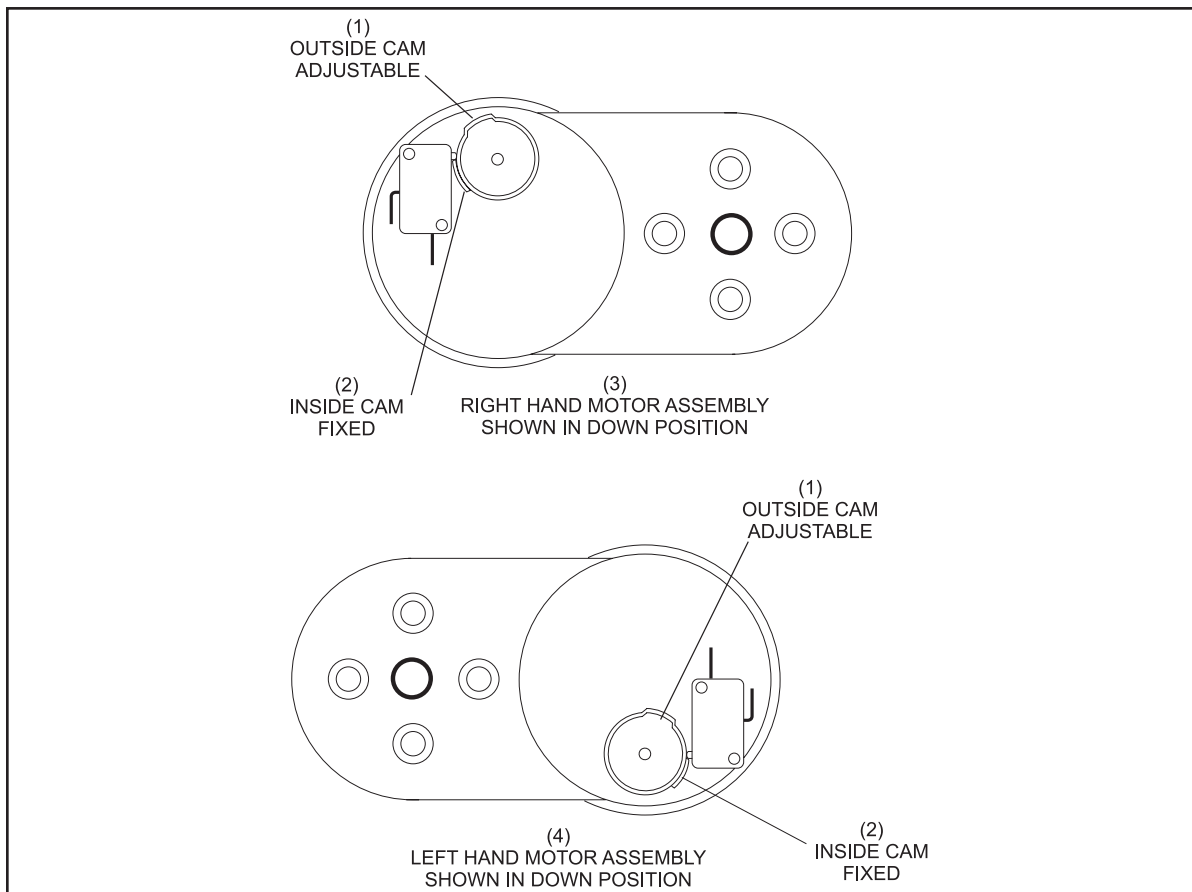

Figure 25. Cam Adjustment
6. Remove the plastic cover on new motor. Position the motor and cams as shown in *Figure 25*.